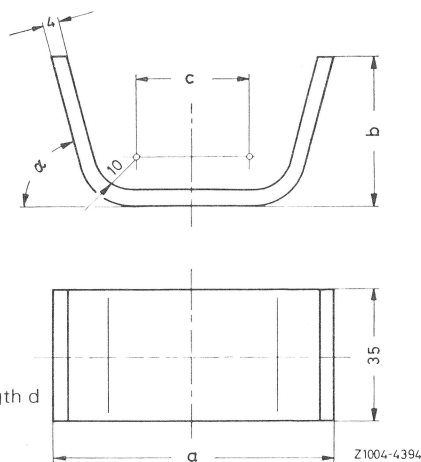

Fig. 5
Holding device for piston	self-made according to Fig. 5
**Note:** Holding fixture (23), is self-made according to dimensions shown in Fig. 5.